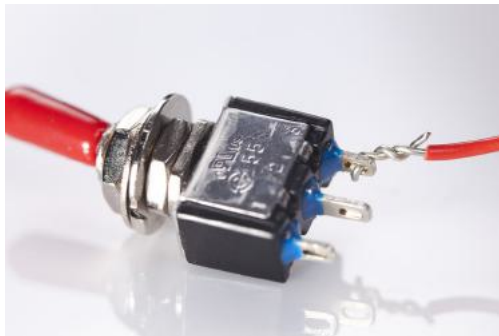

Figure 2-2. *Tying a wire to the switch leads*
5. Connect the red positive wire from the battery holder to either side lead of the switch using the following technique (see Figure 2-2):